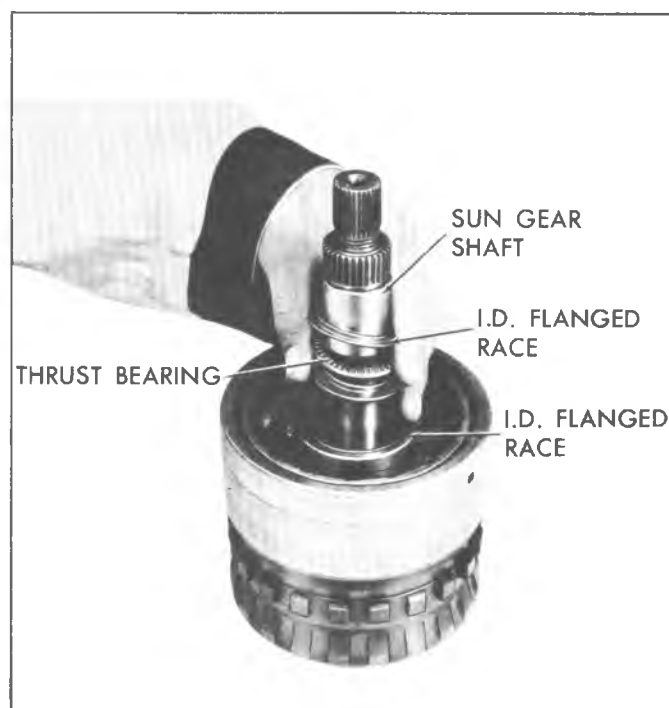

Fig. 122T--Installing Center Support to Sun Gear Thrust Bearing and Races
- c. Install second race, center flange up (fig. 122T).